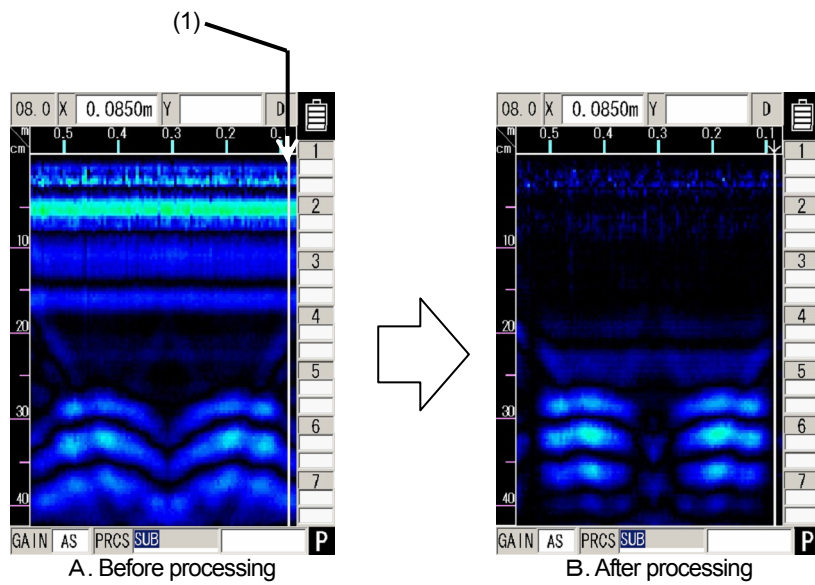

Figure 3-16 Deduction processing
This processing is used to remove the strip reflected waves located at the deep area of 20cm and more on the scan result after a scan as shown in Figure 3-16. Perform the following steps to use this processing.
- (2) Set **SUB** to the **PROC** by pressing the cursor keys **▲▼**.
- (3) Move the cursor to the area not showing any detected objects by pressing the cursor keys **◀▶**.
(Refer to Figure 3-16 A (1).)
- (4) Press the **[5] ENTER** key. Then the deduction processing is performed by using the reflected wave at the cursor position. The marker **↓** is displayed at the cursor position in the distance gauge. (Refer to Figure 3-16 B.)
- (5) To exit from the image processing mode, press the **[6] PROC** key again.